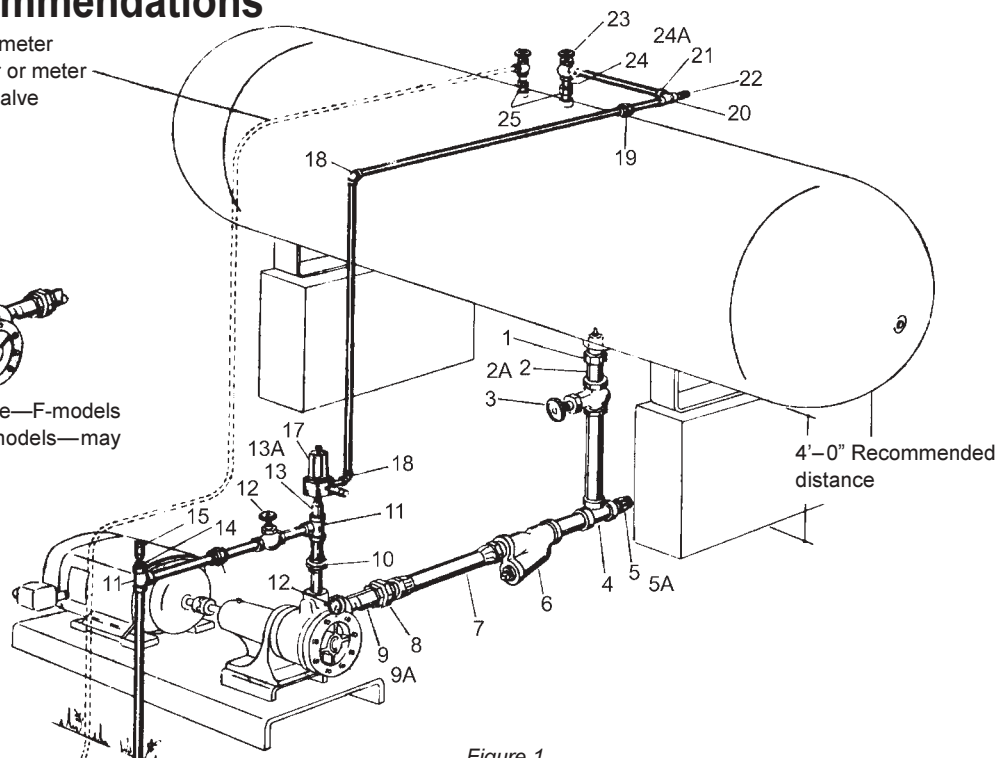

Figure 1
No pump can discharge more liquid than it receives, so the location and the inlet piping must be given careful attention. If the inlet piping is inadequate to supply the demand of the pump, you may expect trouble! The inlet line sizes shown on Figures 1 and 2 are the smallest size piping you can use with success.
8. The minimum inlet piping sizes shown in Figures 1 and 2 must be observed.
4. The minimum outlet piping sizes shown in Figures 1 and 2 must be observed.